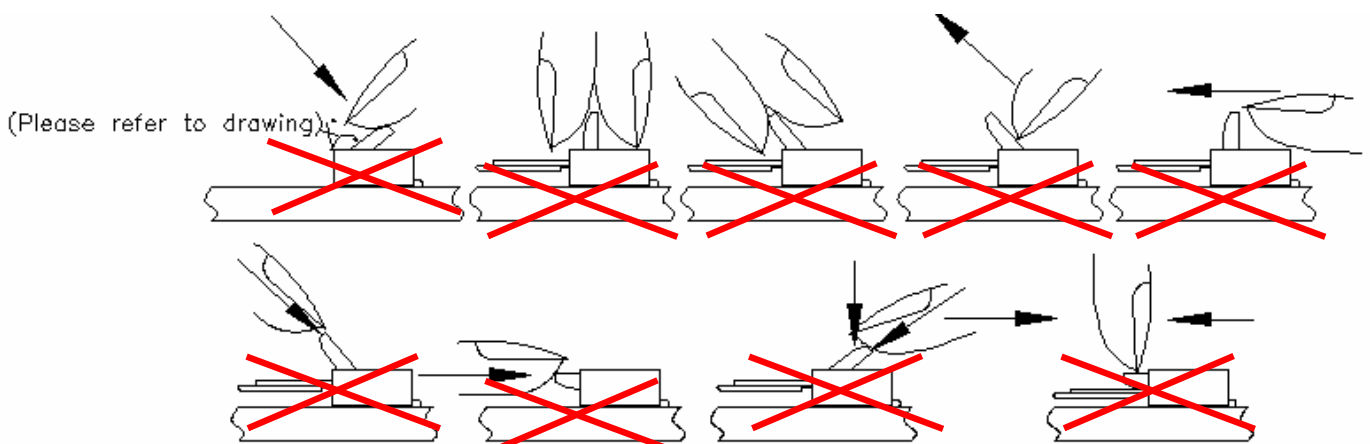

Figure 8.
- The connector will assure reliable performance when the actuator is open to an angle (please refer to drawing) maximum. Do not exceed this angle, as this may cause permanent damage to the connector. (see figure 8)
- Avoid grasping the actuator(Lock) with two fingers or lifting the actuator(Lock) with fingernail. (see figure 8)
- Do not apply force in the direction of arrows. Doing this may cause the actuator to be detached or damaged. (see figure 8).